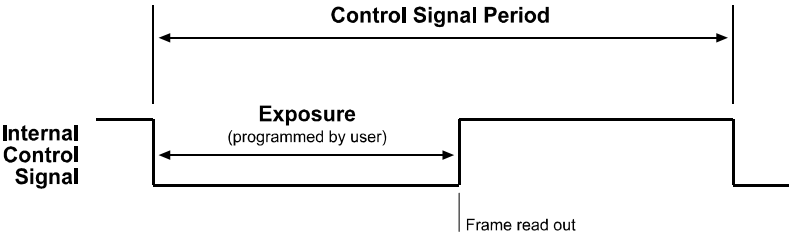

Figure 3-8: Free-run Programmable Mode
- In **free-run programmable mode**, the camera generates a continuous internal control signal based on two programmable parameters: "Exposure Time" and "Frame Period". The Exposure Time setting determines how long the internal control signal will remain low. Pixels are exposed and charge is accumulated when the internal control signal is low. The Frame Period setting determines the control signal period. The frame is read out and transferred on the rising edge of the internal control signal (see Figure 3-8).
An exposure time calculated by the camera will determine how long the internal control signal will remain low. Pixels are exposed and charge is accumulated when the internal control signal is low. The frame is read out and transferred on the rising edge of the internal control signal (see Figure 3-8). The Frame Period setting determines the control signal period.